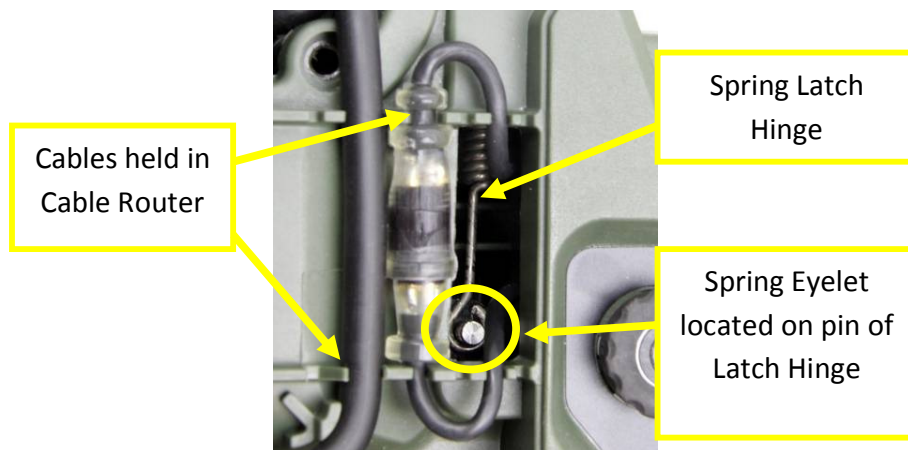

Figure 26: Underneath Hinge Cover
- Confirm coil connector is tight and check the coil cable and the wiring loom are located into the cable router. Figure 26.
- Check the latch h and spring latch hinge are connected as shown in Figure 26. If the latch hinge and spring have become disconnected they must be reconnected.